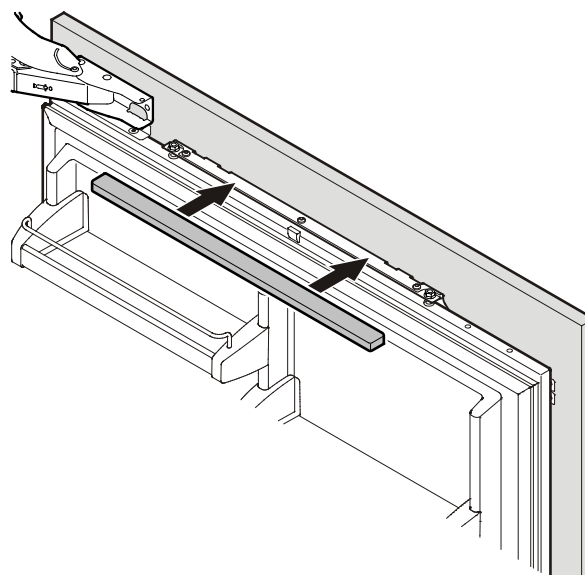

Figure 33
11. Click cover into place (**Figure 33**).